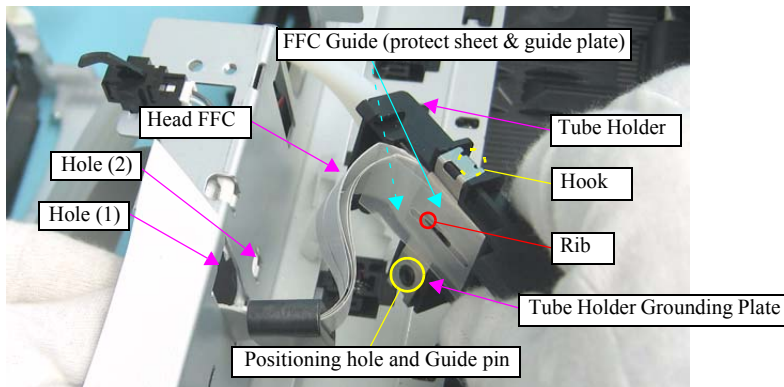
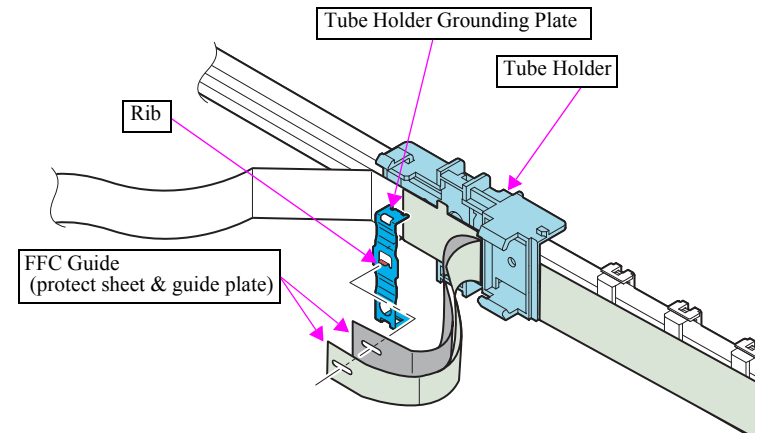

Figure 4-81. Removing the IC Holder Assy (6)
Figure 4-86. Assembling the IC Holder Assy (1)
- When installing the Tube Holder grounding plate to the Tube Holder, match the positioning hole and guide pin, and then secure with the two hooks of the grounding plate. See Figure.4-81.
- Insert the rib of the Tube Holder Grounding Plate into the hole (2) of the Main Frame. See Figure.4-81, Figure.4-86.